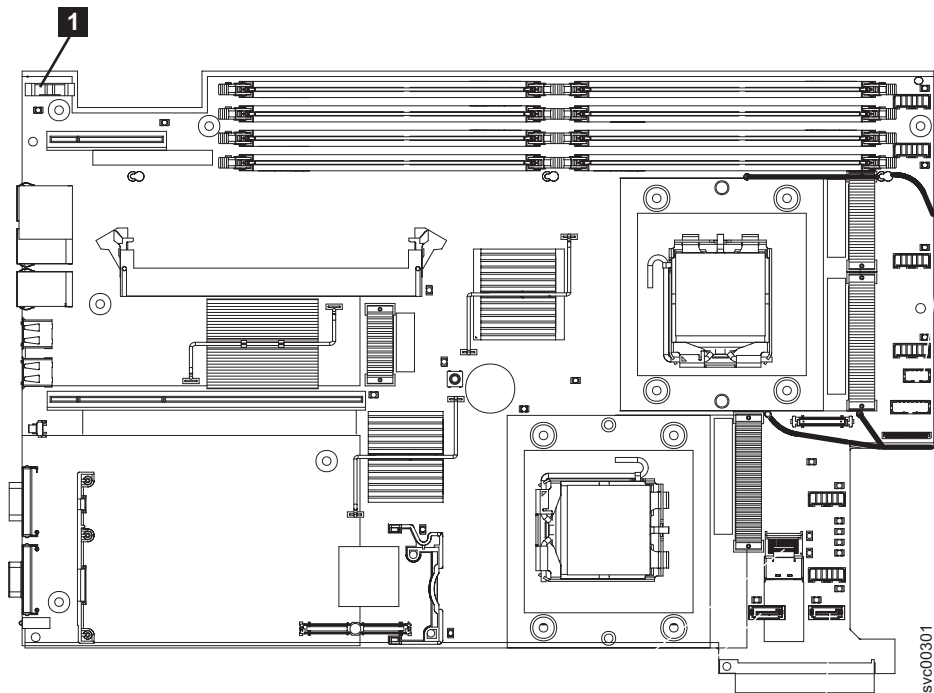

Figure 117. Location of SAN Volume Controller 2145-8G4 CMOS battery holder
3. Locate the battery **1** on the system board. Figure 117 on page 376 shows the location of the battery.